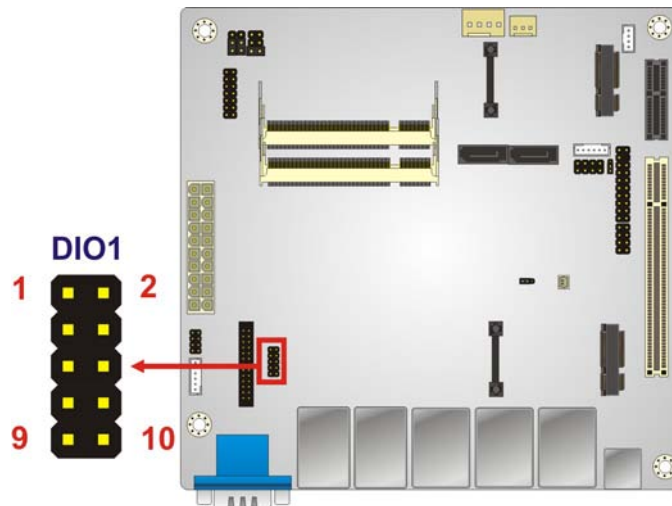

Figure 3-6: Digital I/O Connector Locations
- CN Location: See **Figure 3-6**